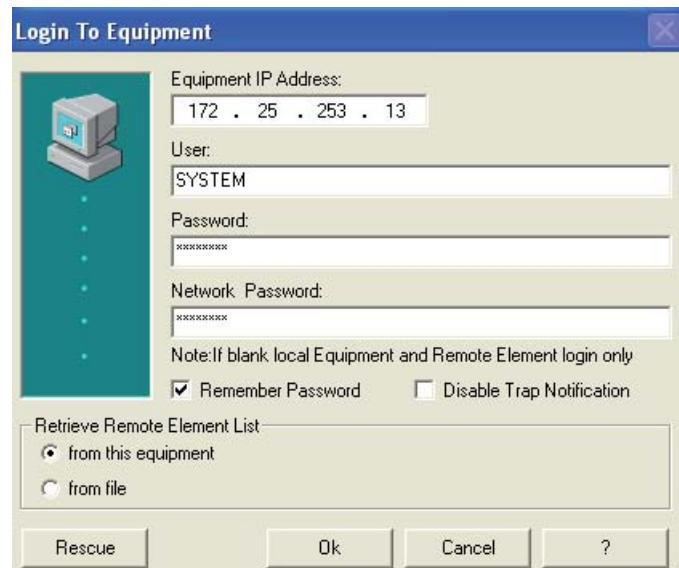

Fig.79 - Login connection using SCT
3. By SCT, connect using Local Area Network, press **connect** button, type equipment user/password and press **RESCUE** button (see Fig.79)